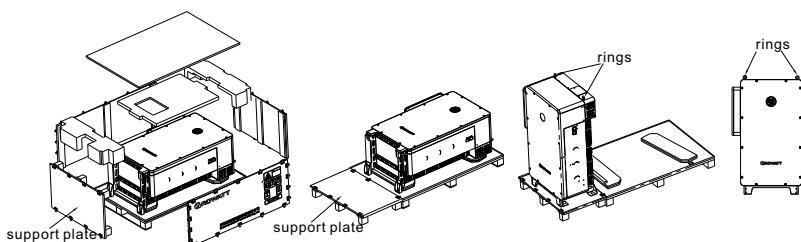

Fig 5.6 Hoisting the WIT Inverter
- As shown in Fig 5.6 below, unpack the WIT Inverter (remove the top panel and the support plates). Then piece the support plates together with the bottom panel. Install the hoisting rings and pull out the handles. Turn the WIT Inverter upright using the handles. Run a rope strong enough to bear the inverter through the hoisting rings and hoist the equipment, and then move the inverter to the installation position;